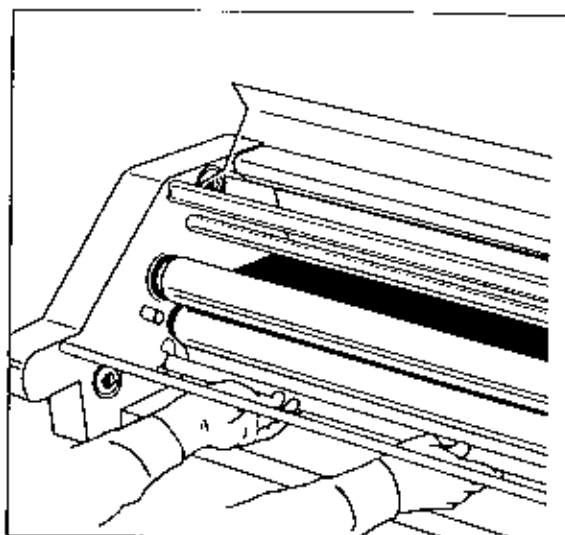

Fig. 6
1. Turn the main power switch on. If the laminator is already hot turn the main power switch off (O) and allow the unit to cool, then turn the machine back on (I). Remove feed table.
9. Lower the bottom idler bar, (Figure 6).